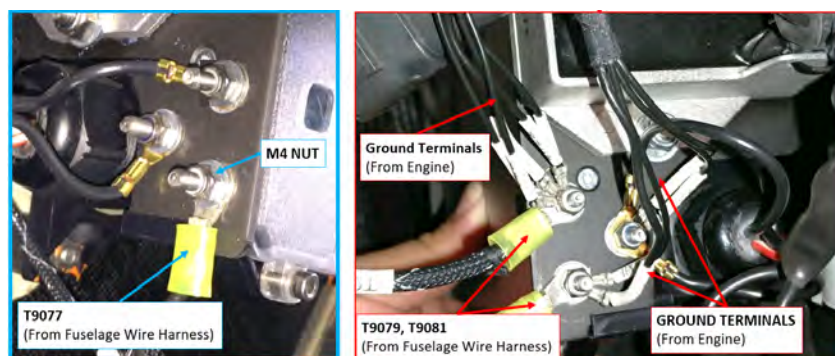

FIGURE 16-59
10. Secure the ring terminals to the ground studs with M4 nuts and washers. Do not install more than five rings on any single ground stud. See Figure 16-59.